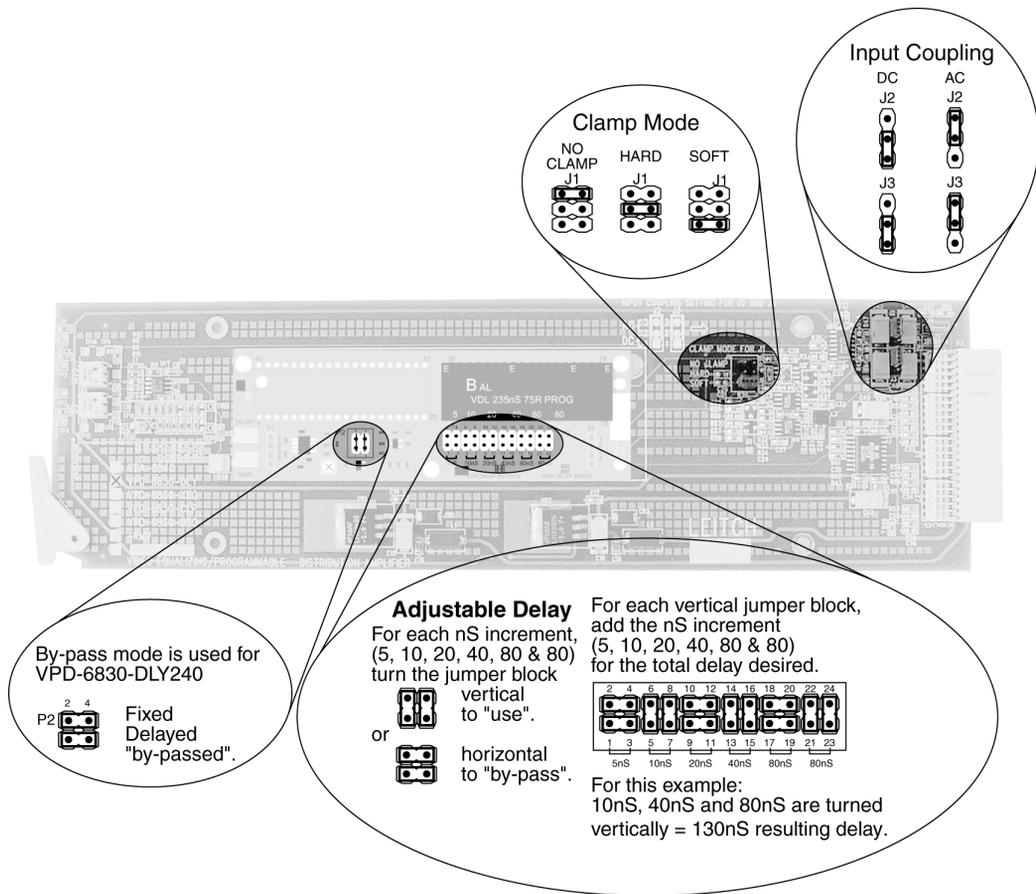

Figure 8-15. VPD-6830-DLY Series Jumper Location
The VPD-6830-DLY240 provides adjustable delay from 0 to 240 ns. The additional delay submodule is shown on the VEA-6840 base card in Figure 8-15 on page 91.
1. Set the **Input Coupling** for either AC or DC coupling using jumpers **J1** and **J2**. See Figure 8-15 on page 91 for jumper locations.
2. Set the clamping mode on jumper **J3** to either **Soft**, **Hard**, or **No Clamp**. See Figure 8-15 on page 91 for jumper location.
Connecting the jumpers horizontally puts them in **Bypass** mode. Connecting them vertically puts them in **Use** mode. See Figure 8-15 on page 91 for an illustration of this jumper set.
where a designated amount of delay is used to select a total amount of delay. Each vertical jumper set that is used represents the amount of delay which can be added together to equal the total amount of delay of the DA's configuration. *See* Figure 8-15 on page 91 for an illustration and an example showing this jumper set.
The VPD-6830-DLY435, VPD-6830-DLY635, VPD-883-DLY1035, and the VPD-6830-DLY1235 series provides adjustable delay from 0 to 1235 ns delay. The additional delay submodule is shown on the VEA-6840 base card in Figure 8-15 on page 91.
1. Set the **Input Coupling** for either AC or DC coupling using jumpers J1 and J2. See Figure 8-15 on page 91 for jumper locations.
2. Set the **Clamping** mode on jumper J3 to either **Soft**, **Hard**, or **No Clamp**. See Figure 8-15 on page 91 for jumper location.
Position the jumpers vertically for **Use** mode when the fixed delay line is installed. See Figure 8-15 on page 91 for an illustration of this jumper set.
where a designated amount of delay is used to select a total amount of delay. Each Vertical jumper set that is used represents the amount of delay which can be added together to equal the total amount of delay of the DA's configuration. See Figure 8-15 on page 91 for an illustration and an example showing this jumper set.